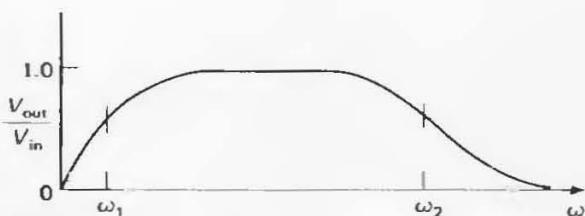

Figure 1.109
(6) Design a bandpass  $RC$  filter (as in Fig. 1.109);  $f_1$  and  $f_2$  are the  $3\text{dB}$  points. Choose impedances so that the first stage isn't much affected by the loading of the second stage.